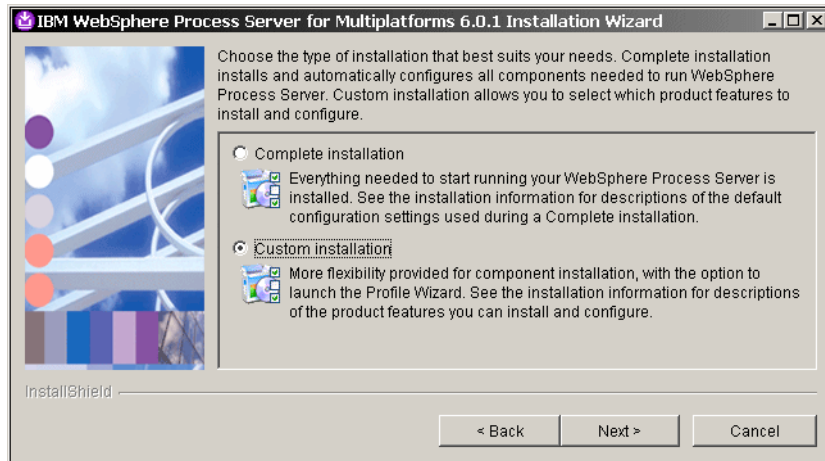

Figure A-11 WebSphere Process Server: Custom installation
- ▶ Select *Custom installation* (Figure A-11).